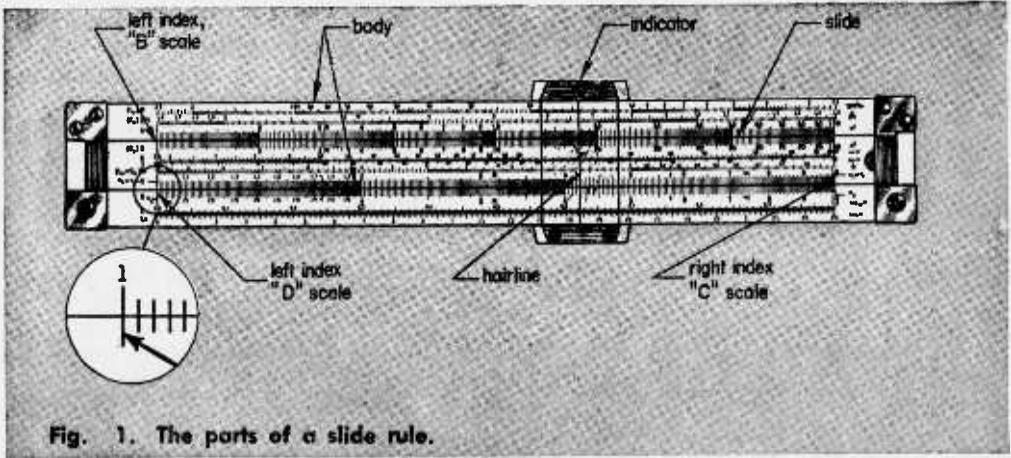

Fig. 1. The parts of a slide rule.
Fig. 1. Oscillators are basically amplifiers that feed back a portion of their amplified signal to the input circuit in the correct phase to boost the input signal and sustain oscillation. In (A) above, the output signal from the plate of the second stage is fed back to the input control grid of the first stage. In (B), the Wien circuit picks the desired RF frequency and rejects all others.
The circuit is now made practical by adding some method of varying the frequency. This is the resistor-capacitor network shown in Fig. 1 (b). These components can be considered as a type of filter. According to their values, they permit only one frequency to pass from the feedback path onto the grid of Tube 1. All undesired frequencies are short-circuited in the network. Another way of viewing it is to recall that *positive* feedback gets the circuit oscillating. What the network provides is *negative* feedback—on all but the desired signal frequency. Undesired signals are effectively cancelled out.
There's a circuit refinement shown in Fig. 1(b) to keep signal energy at a constant level, an important feature in using the generator. It's the lamp placed in the cathode of Tube 1. It acts as a continuous regulator in this fashion: If, for some reason, the signal
Looking at the slide rule. The first thing when you first look at a slide rule is a profusion of scales. (See Fig. 1.) Actually,